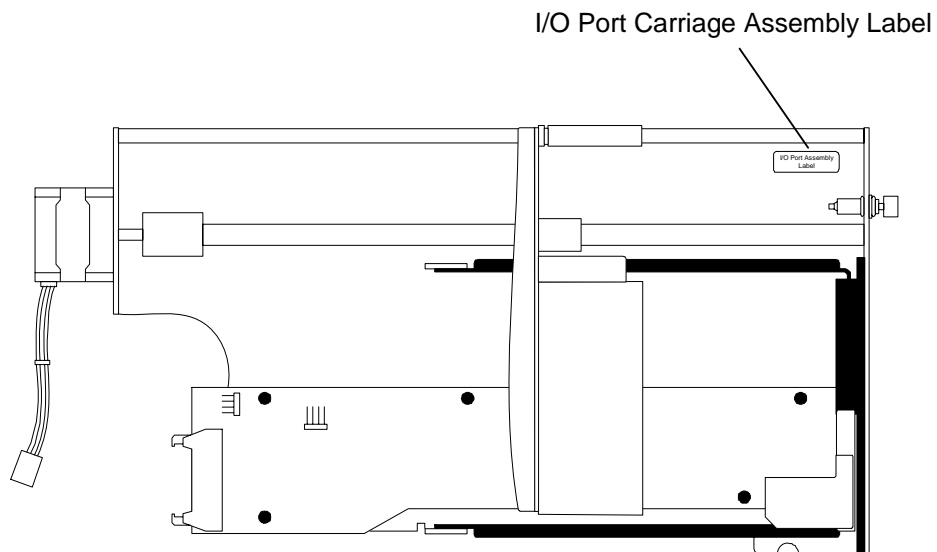

Figure 7-38 I/O Port Assembly Label
5. Inspect the label on the I/O Port Assembly to determine its revision level (e.g., I/O Port : A). See Figure 7-38.